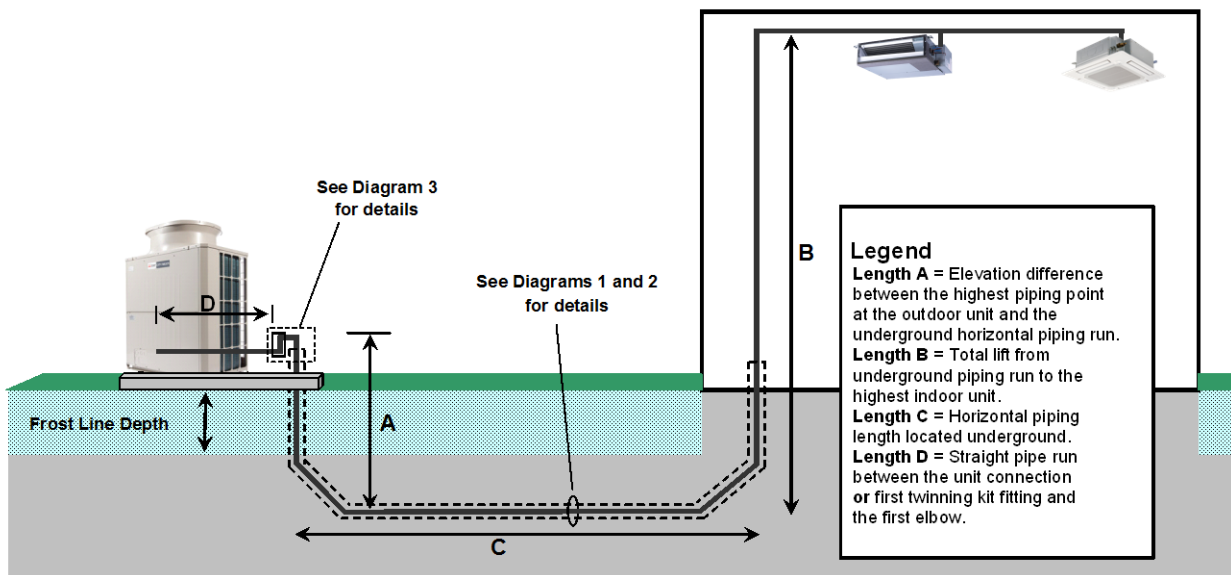

Figure 1: Underground Installation of Refrigerant Piping
- Include the sum of **Lengths A and B** (see Figure 1) in the calculation for maximum vertical lift for the respective unit. See the System Design Section in the Engineering Manual(s) to obtain the maximum allowable vertical lift.